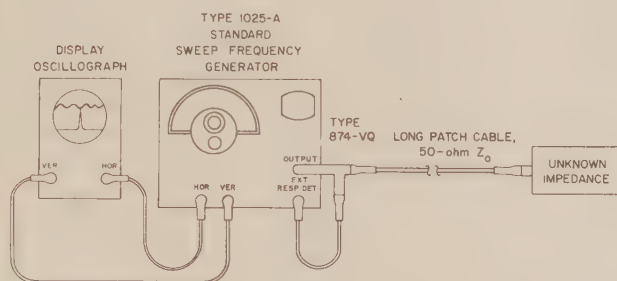

Figure 4-1. Measurement set-up for display of VSWR.
4.4.2 VSWR REFERRED TO 50-OHM LINE. Figure 4-1 is a recommended set-up for measuring VSWR or matching impedances over a relatively wide frequency range. In addition to the sweep generator and display oscilloscope, the following auxiliary equipment is required: